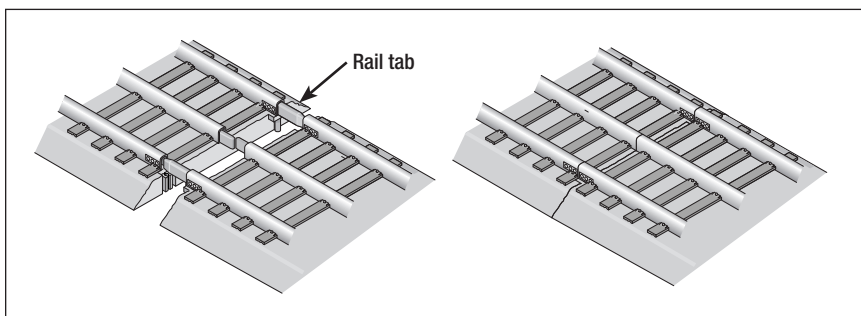

Figure 3. Joining the track sections
**F**astrack track sections join together easily. With interlocking roadbed sections and large rail tabs, the track fits together securely so you always get good electrical contact. Take a look at Figure 3 to see how to join the track sections.